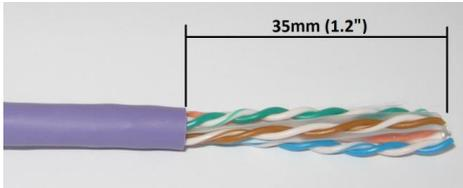

Fig.1
3.1) Strip the cable for minimum 35cm (Fig.1)